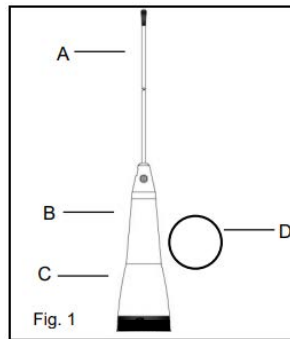

Fig. 1
**1. Parts (Figure 1):**
Verify all parts are included with the Antenna as shown in Figure 1.